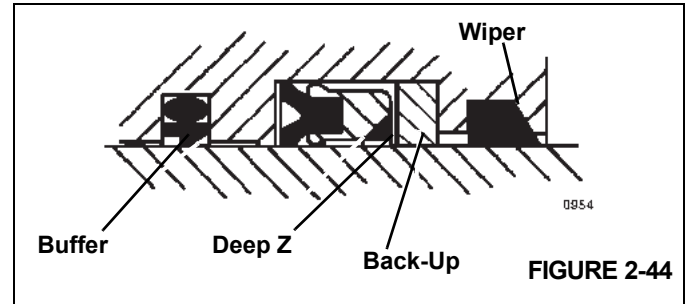

FIGURE 2-44
5. Install the wiper ring, backup ring, deep Z rod seal, buffer seal assembly, and wear rings into the inside of the cylinder head (Figure 2-44).